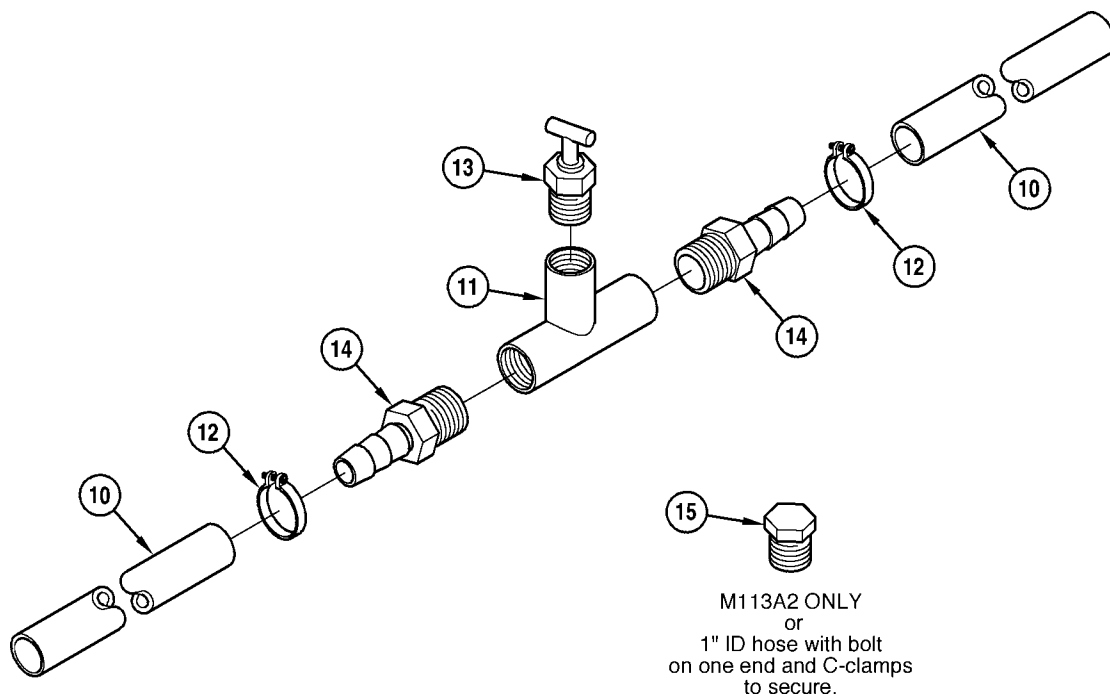

Figure 2-17. Air Bleed Valve
7. Cut length of hose (10), with arc at the middle, long enough to reach from deaeration elbow to thermostat housing. See Figure 2-17.
8. Position and cut hose (10) at highest point of arc and install pipe tee (11), two straight adapters (14), and two clamps (12) between cut hose (10). See Figure 2-17.
9. Install drain cock (13) in pipe tee (11). See Figure 2-17.
10. Install assembled air bleed valve (13) on adapter of deaeration with clamp (12).
11. Install other end of air bleed valve (13) on thermostat housing adapter with clamp (12).
12. M113A2 or M548A1 only. If lower radiator elbow flange has tube/adaptor installed, plug or cover opening by any means available. If it does not have a tube/adaptor, use plug (15).